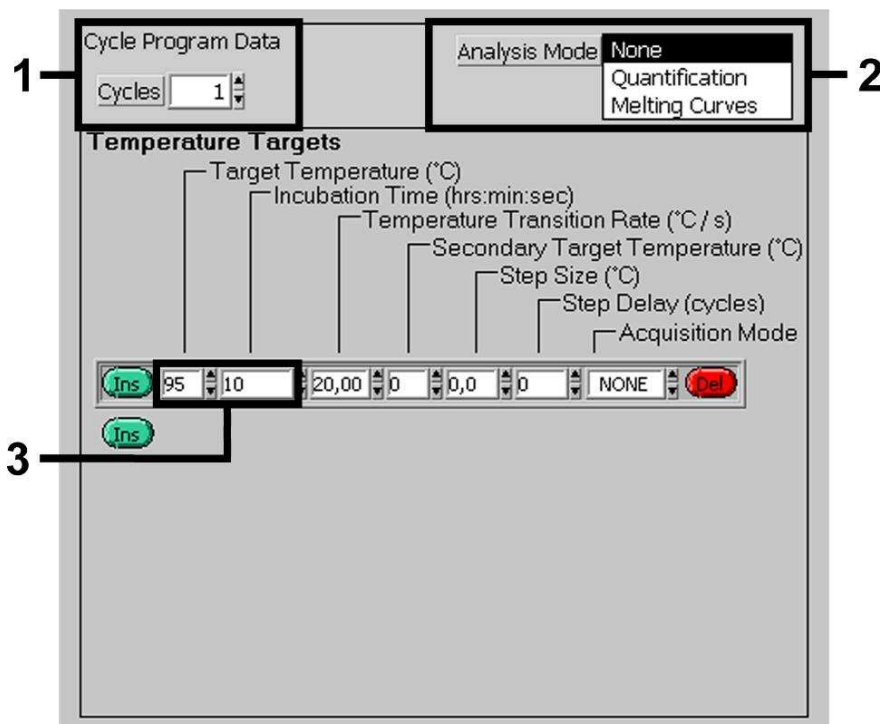

Fig. 3: Initial Activation of the Hot Start Enzyme.
For the detection of Parvovirus B19 DNA, create a temperature profile on your *LightCycler*[®] Instrument according to the following three steps (see Fig. 3 - 5).
- A. Initial Activation of the Hot Start Enzyme Fig. 3